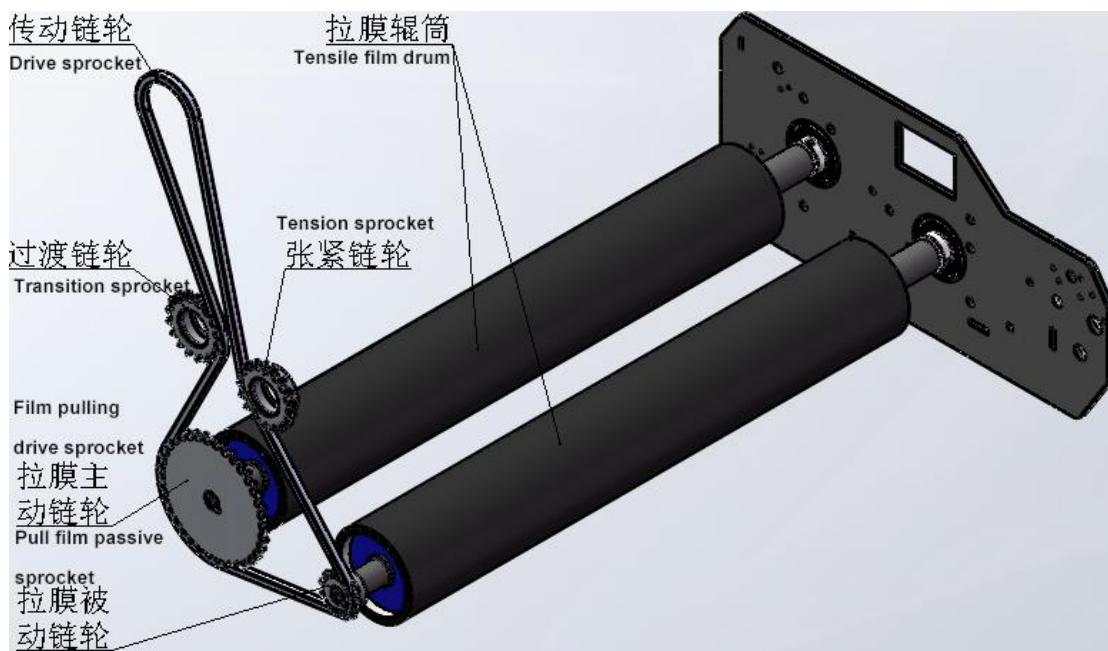

Figure 3.1.3 Film carriage transmission device
4.The film carriage transmission device mainly includes the active sprocket, the passive sprocket, the transition sprocket, the tension sprocket, the film roller and so on.The membrane seat passes through the membrane seat motor on the lifting car, under the action of the external sprocket, the driving force is transferred to the transition transmission device. The transmission device drives two film pulling rollers through the sprocket, and the film is pre-stretched into a certain proportion of the state. (Figure 3.1.3)